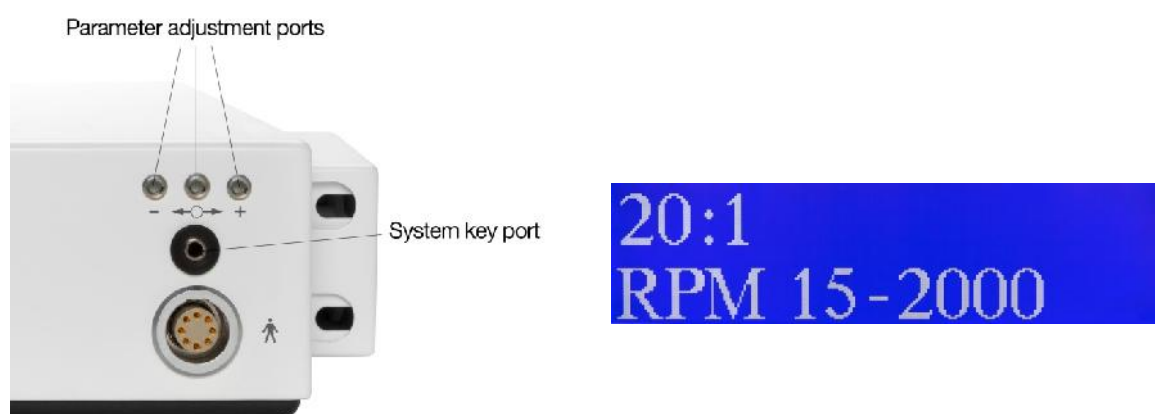

Fig. 11 + 12
2. Insert the surgery access key corresponding to the gear ratio of the handpiece you are going to use, into the system key port – see Fig. 11.